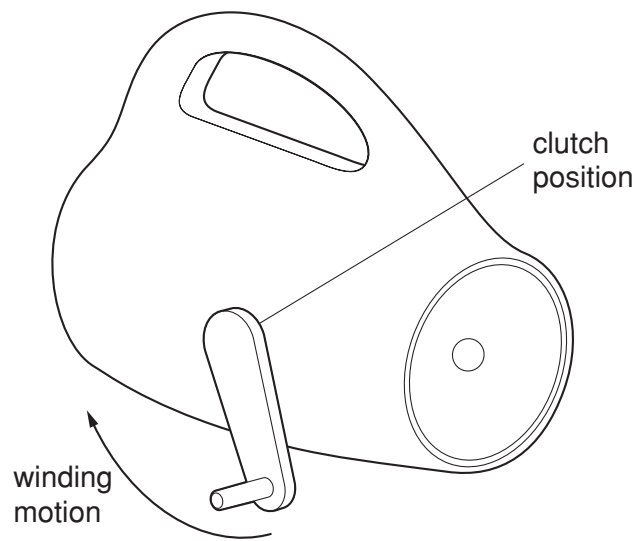

Fig. 8
- 4 Fig. 8 shows a wind up torch.